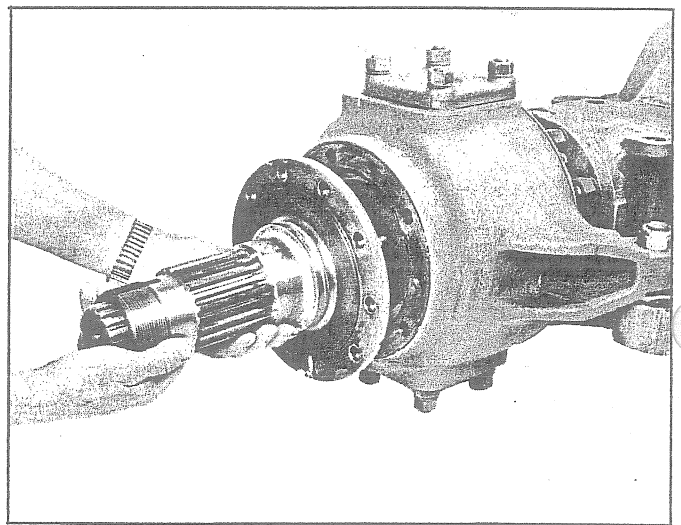

Fig. 11 - Removing Spindle Assembly
12. Pull straight out on spindle assembly to remove. See Fig. 11.